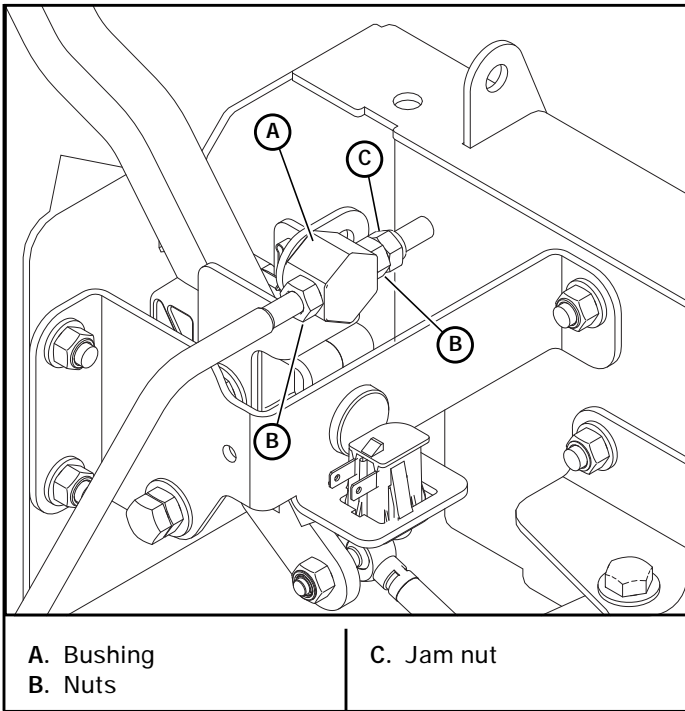

Figure 4-2
4. Starting with one side, loosen the nuts adjacent to the steering bushing. Figure 4-2
5. Verify that the pump arm is in the neutral position. Tighten the nuts against steering bushing. Figure 4-2
8. Tighten the jam nut against the nut. Figure 4-2